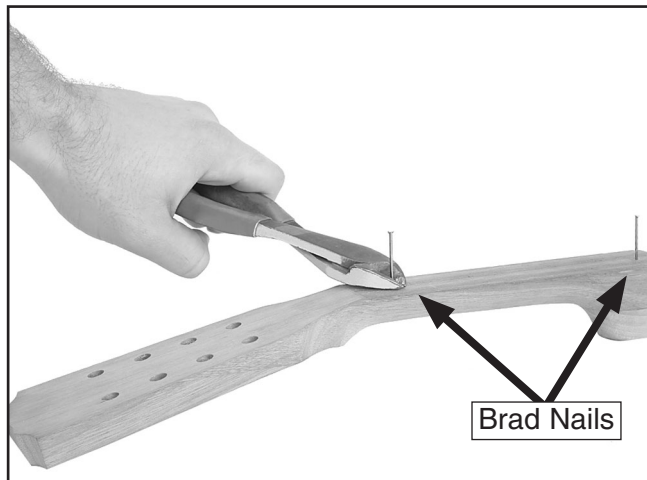

Figure 26. Trimming brad nails.
3. Nail the brads into the positioning holes and use wire cutters to cut the heads off no more than an 1/8" above the surface of the neck as shown in **Figure 26**.